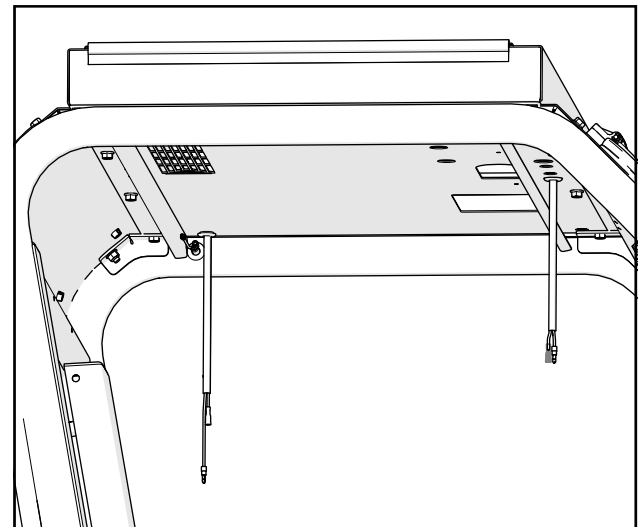

Fig. 2.3 (Install Wiper Wiring)
- 2.3** Remove the wiper wire/console power wires and associated grommets from the old roof pan. Re-install into the new roof pan as they were in the old one. Secure the wiper wire to the left side, front corner of the pan with a cable clamp, #10-32 screw and nut. Figure 2.3. Connect the wiper wire to the wire from the left side frame and to the wiper, or to overhead console if applicable.